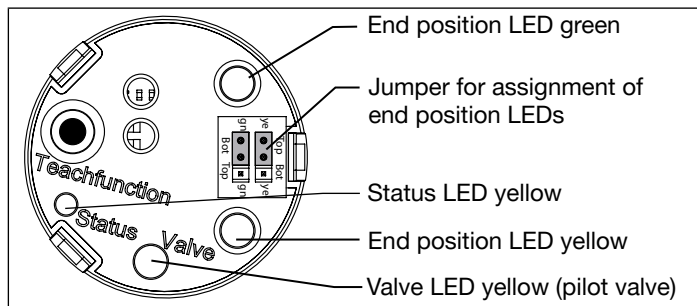

Fig. 14: Display elements 24 V DC
3) Color setting ex works. Can be set via jumper (see "Fig. 14").